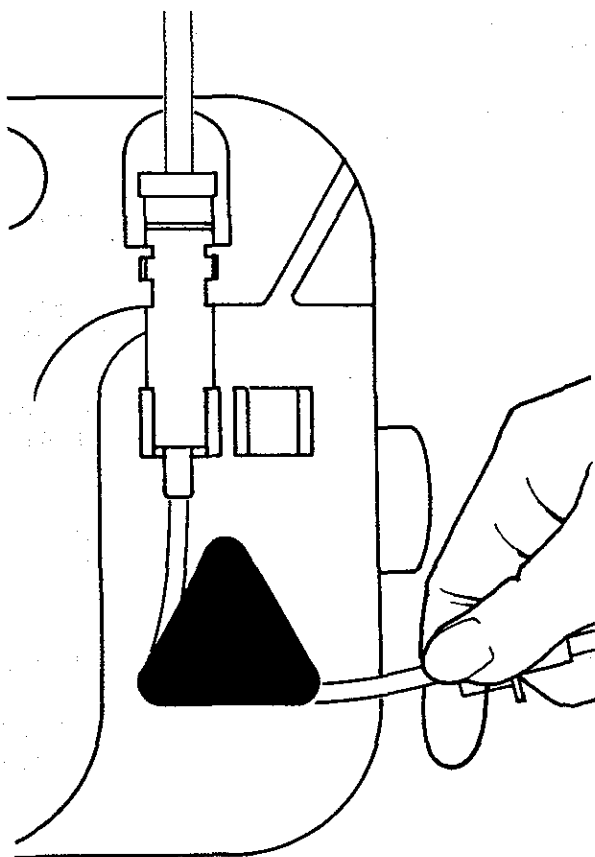

Figure 2-4 Assemble Silicone Tubing Around Rotor.
8. Stretch silicone tubing around rotor. (Figure 2-4)